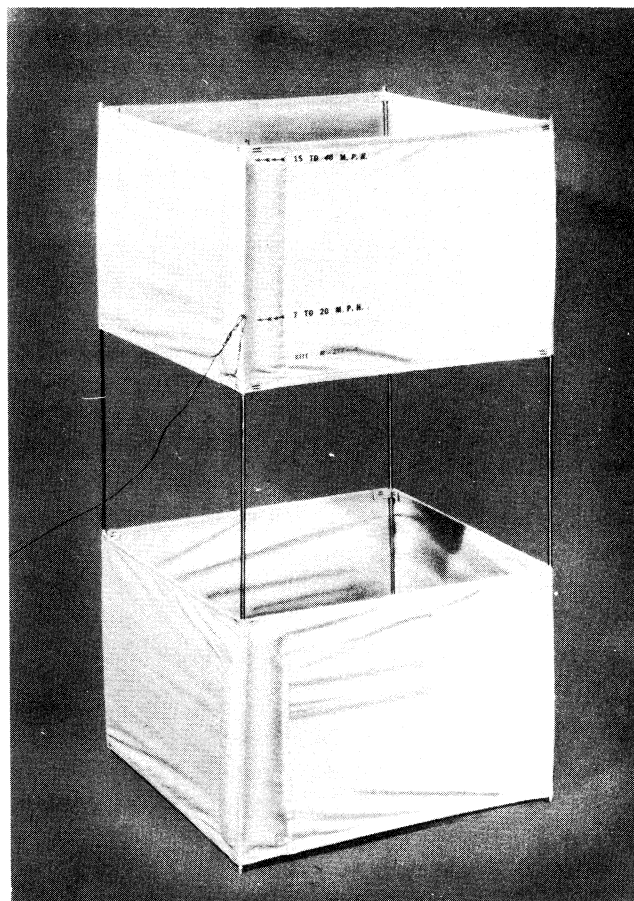

Figure 3—Kite M-277-A, Assembled and with Antenna Attached
b. KITE M-357-A or M-277-A (see figs. 3 and 4)—Either kite is used to send aloft the antenna.
(1) Kite M-277-A is the original kite supplied with Radio Set SCR-578-A. It is a collapsible box kite measuring 17 x 17 x 36 inches assembled. Complete instructions for its assembly and use are given on the cylindrical container in which the kite is packed. This kite will fly in wind velocities of from 7 to 40 mph. The cloth on the kite has been treated, making it moisture-repellent, and a section filled with kapok gives buoyancy. Continued soaking, however, will eventually cause it to become saturated.
(2) Kite M-357-A is identical with Kite M-277-A, except that the 36-inch longerons have been divided in the middle and equipped with sleeve fittings; this permits the complete kite to be stowed in a space approximately 2 x 4 x 19 inches. Complete instructions for the use of Kite M-357-A are given on the container in which it is packed.